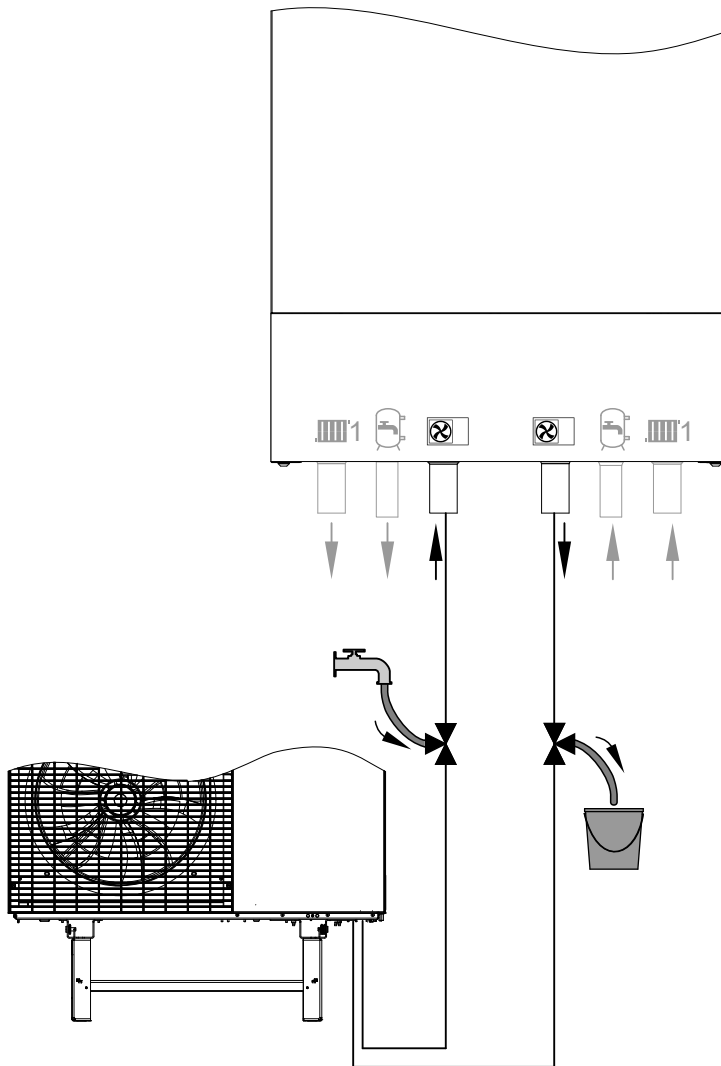

Fig. 65
3. Open the outdoor unit 3-way flow and return ball valve as shown in Fig. 65: **Open in all directions**. Allow the heating water to flow in via the fill hose.